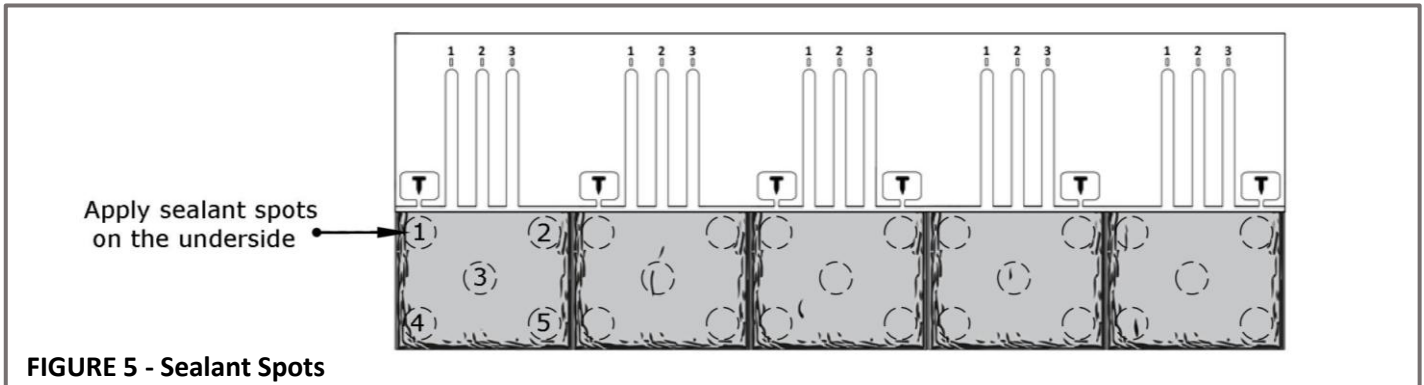

FIGURE 5 - Sealant Spots
- Apply **five 1" (25mm) diameter** sized spots behind every tab, (total of 25 spots per full shingle). See **Figure 5**.